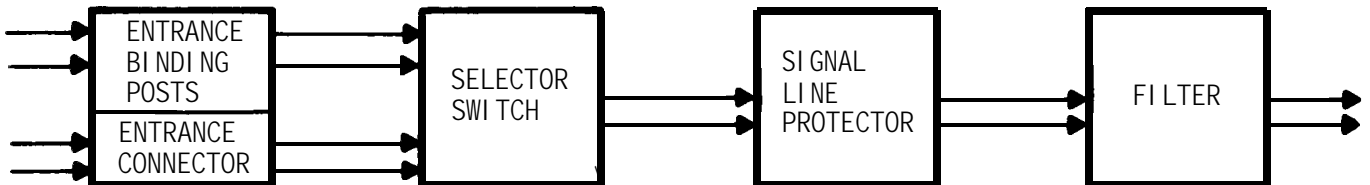

Figure 2-16. Entrance Area Diagram
a. Entrance, SLIP, and Filter Area. The entrance, SLIP, and filter area (fig. 2-16) includes signal line connections, switches, protection devices, and filters. At the entrance panel, lines from external circuits are attached to the binding posts or for more permanent connections, fastened into the connector. Both entrance areas have identical components.